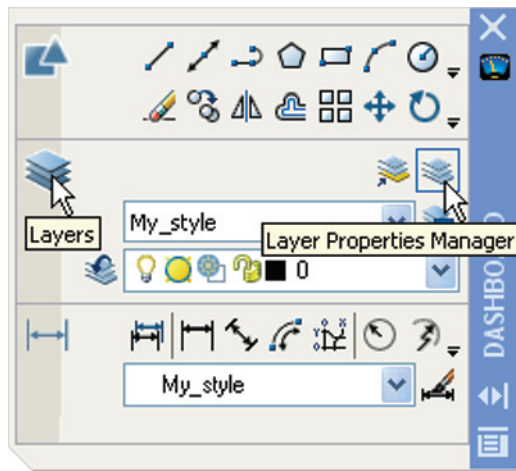

Fig. 4.16 The **Layer Properties Manager** icon in the **Layers** control panel
1. **Left-click** on the **Layer Properties Manager** tool icon in the **Layers** control panel (Fig. 4.16).